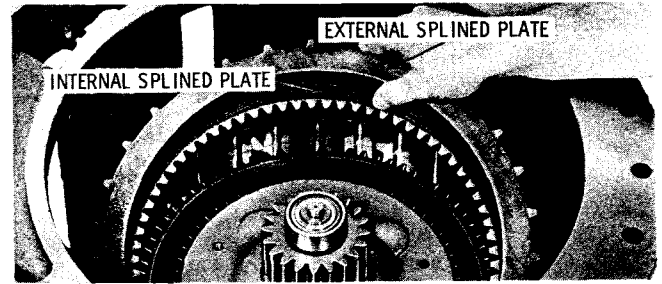

Fig. 7-10. Installing high-range clutch plates S1657
(10) Beginning with an internal-splined plate, alternately install three internal- and two external-splined, high-range clutch plates (fig. 7-10).